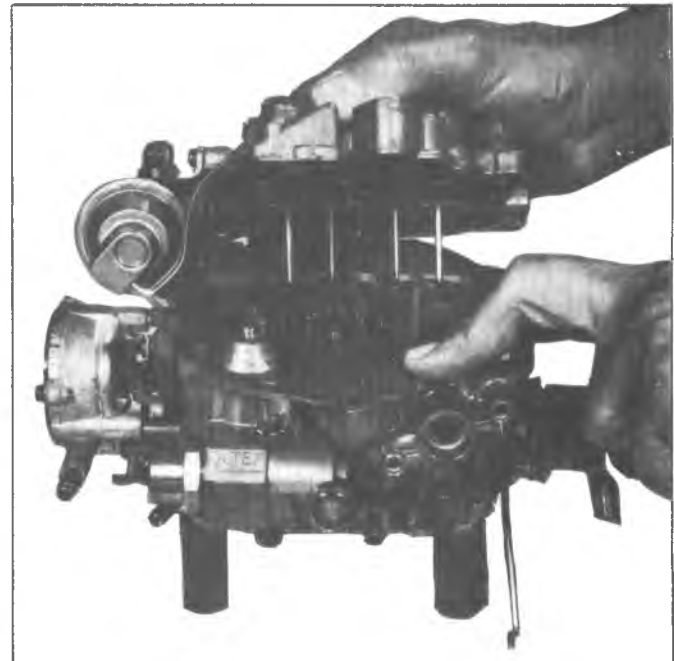

Fig. 6MQ—Removing Air Horn
7. Remove air horn from float bowl by lifting straight up. The air horn gasket should remain on the float bowl for removal later (Fig. 6MQ).